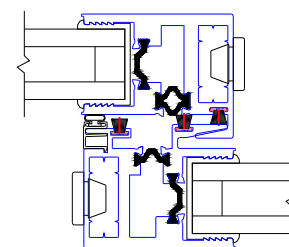

Figure 28:
- Verify that all panels with interlocker hooks engage properly (See figure 28). If lead stile is not engaging properly with the jamb or meeting stiles, rollers must be adjusted to create an even reveal.